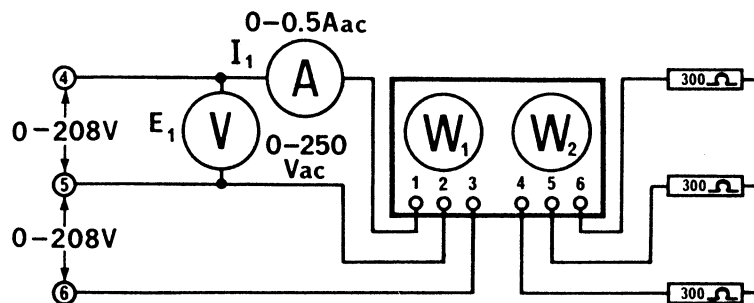

Figure 47-4.
- 1. Using your Three-Phase Wattmeter, Power Supply, Resistive Load, AC Ammeter, and AC Voltmeter, connect the circuit shown in Figure 47-4.